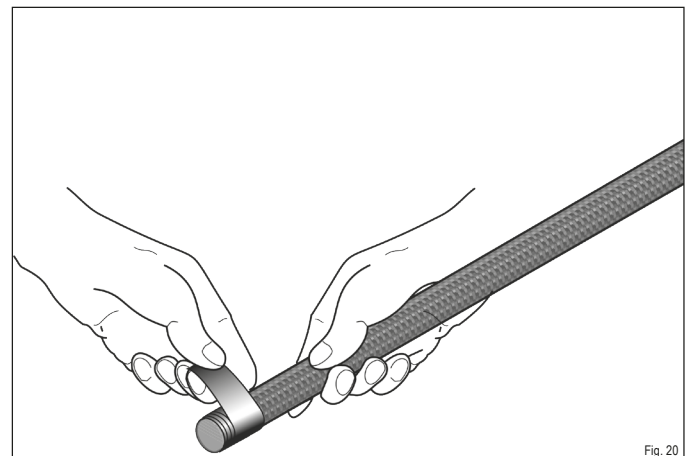
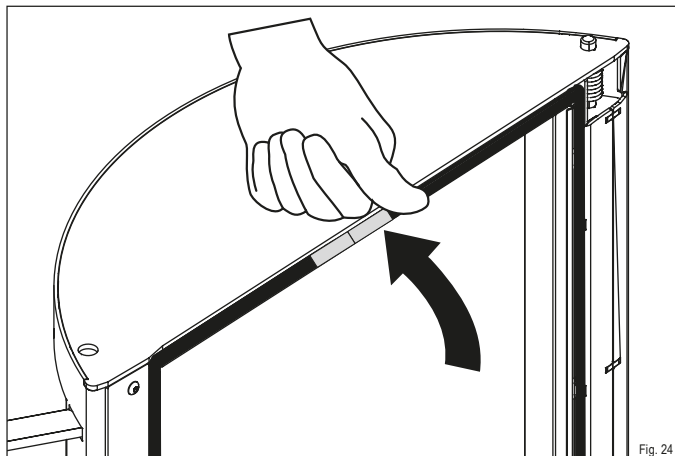

Fig. 20
Fig. 24
- ▶ Wrap approx. 3 cm of one end of the new seal with copper tape (Fig. 20).
- ▶ Also wrap this end in copper tape (Fig. 20) and push the seal into the rail (Figure 24)